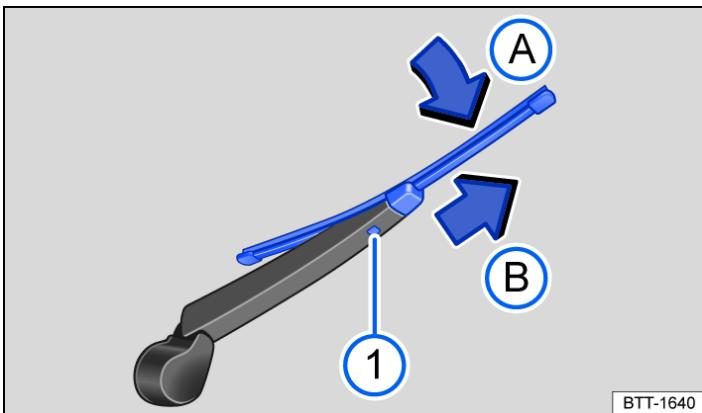

Fig. 2 Changing the rear window wiper blade.
- Press and hold the release button → *Fig. 2* .